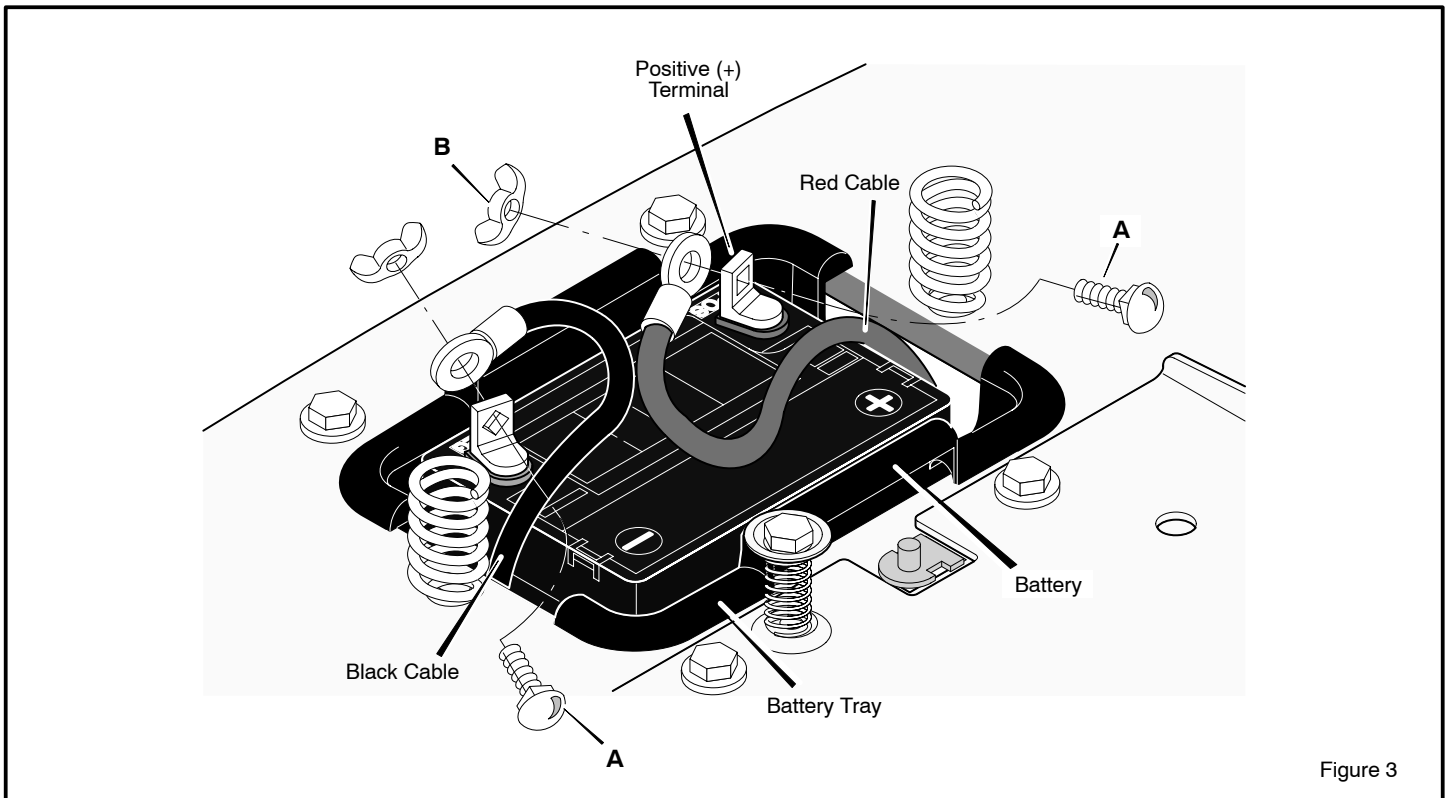

Figure 3
1. Check the top and the side of the battery for the location of the **battery date** (Figure 3).
2. Fasten the **red cable** to the **positive (+)** terminal with the fasteners as shown (Figure 3).